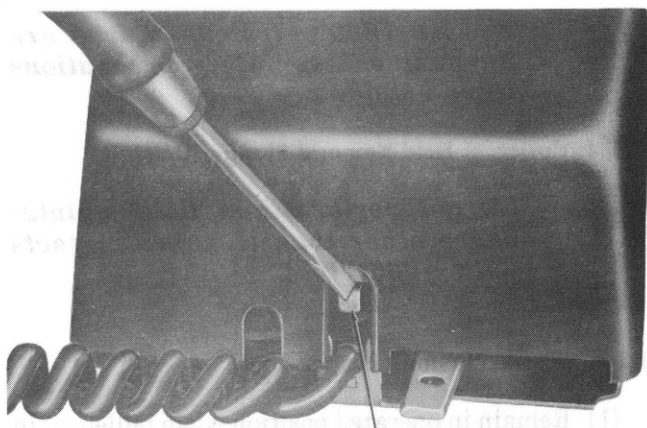
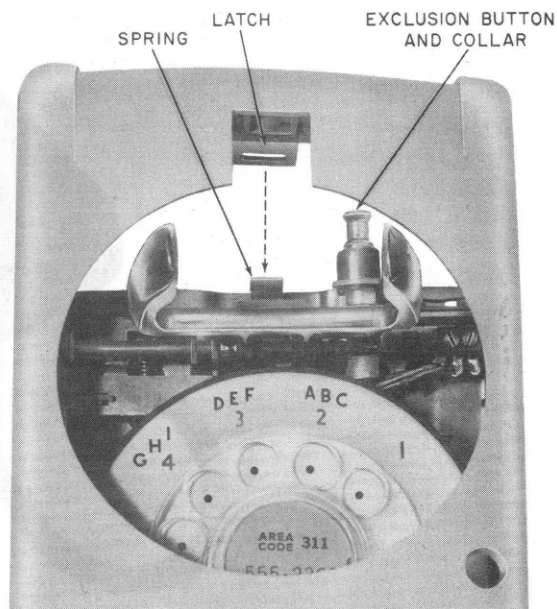

Fig. 6—Removing Rotary Dial Wall Set Housing
Fig. 7—Replacing Wall Set Housing
2.03 Wall-type (rotary dial only) set housings are removed by pushing in tab of snap fastener in slot centrally located in bottom of housing (Fig. 6), and at the same time pushing lower part of housing in releasing snap fastener and then lift lower part of housing outward. To replace housing, slip over handset hook and dial, and engage latch spring assembly (Fig. 7). Press firmly on lower part of housing to engage snap fastener and catch.